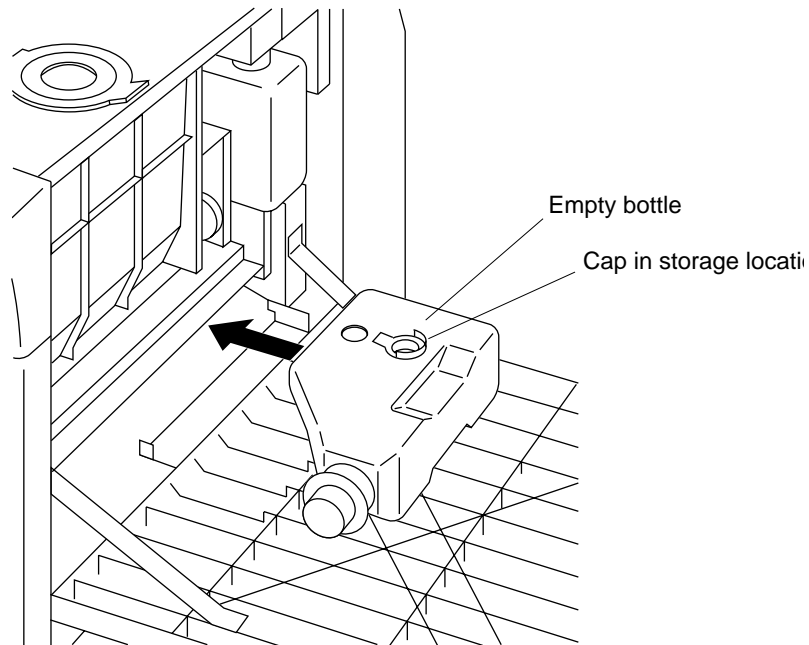

Figure 2-58 Installing Developer Purge Bottle
2. Turn cap around and place in the storage location, as shown in Figure 2-58.